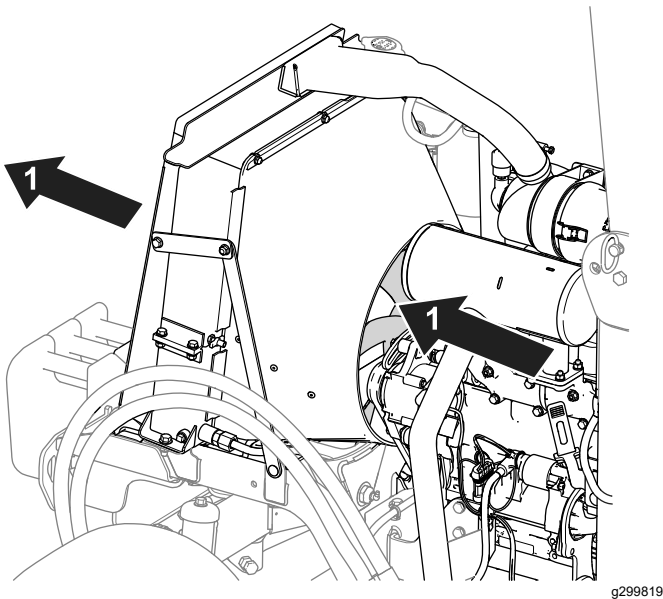

Figure 70
- Use compressed air to clean the radiator fins. Direct the air out from the machine (Figure 70).